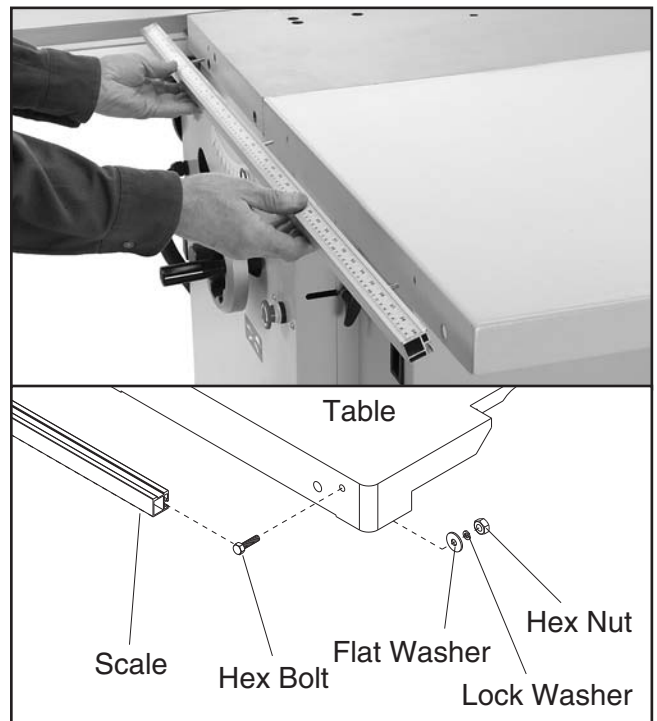

Figure 12. Mounting rip fence scale.
5. Mount the rip fence scale to the main table and extension table (see **Figure 12**) with (2) M6-1 x 16 hex bolts, (1) M6-1 x 25 hex bolt, and (3) M6-1 hex nuts, 6mm lock washers, and 6mm flat washers. Do not completely tighten the fasteners at this time, because the rip fence scale will need to be calibrated to the blade during a later step.